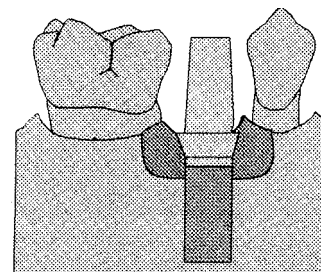

Fig 6
6. The impression coping is removed and the appropriate UCLA Type Abutment is seated on the analog. The final form and contours of the restoration are waxed leaving room for any aesthetic components (Fig. 6). When the casting is extended occlusally beyond the end of the UCLA abutment, such as with a Gold UCLA, the Waxing Screw is utilized. If you were to wax directly against the Waxing Screw, the hole would be too small for the Prosthetic Screw to pass through. Therefore, it is suggested that you coat the portion of the surface of the Waxing Screw that is occlusal to the abutment with a thin layer of Rubber Sep (802045) before waxing the extension.